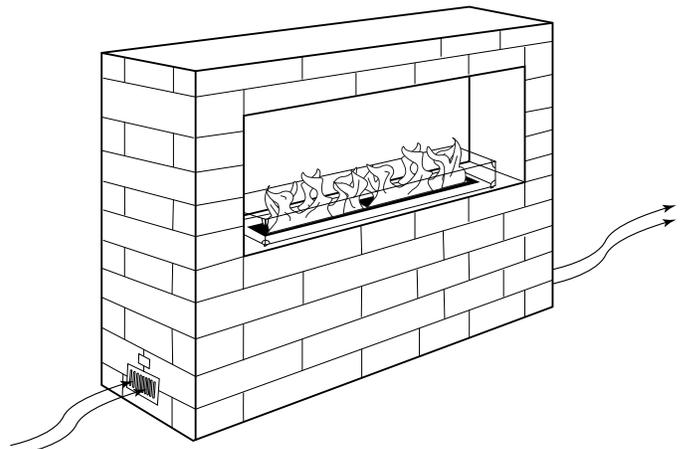

Figure 3 - Cross ventilation example providing minimum of 18-square inches per side using the Cross Ventilation Kit, VENT-KIT-6x12 (Cat. No. F3535), provided.
- CAUTION:** A minimum of 18 square inches of cross ventilation (per side) is required to keep the inside of the enclosure dry. Install the supplied VENT-KIT-6x12 (cat. no. F3535) approximately 3 to 4 inches from the floor centered on each end of the fireplace (*See Figure 3, Page 5*).
Fireplaces are subjected to many outdoor elements such as rain, snow, wind, heat or cold. **A minimum of 18 square inches of cross ventilation (2 sides) is required to keep the components in good working order.** Use *Figure 3* as a guide.